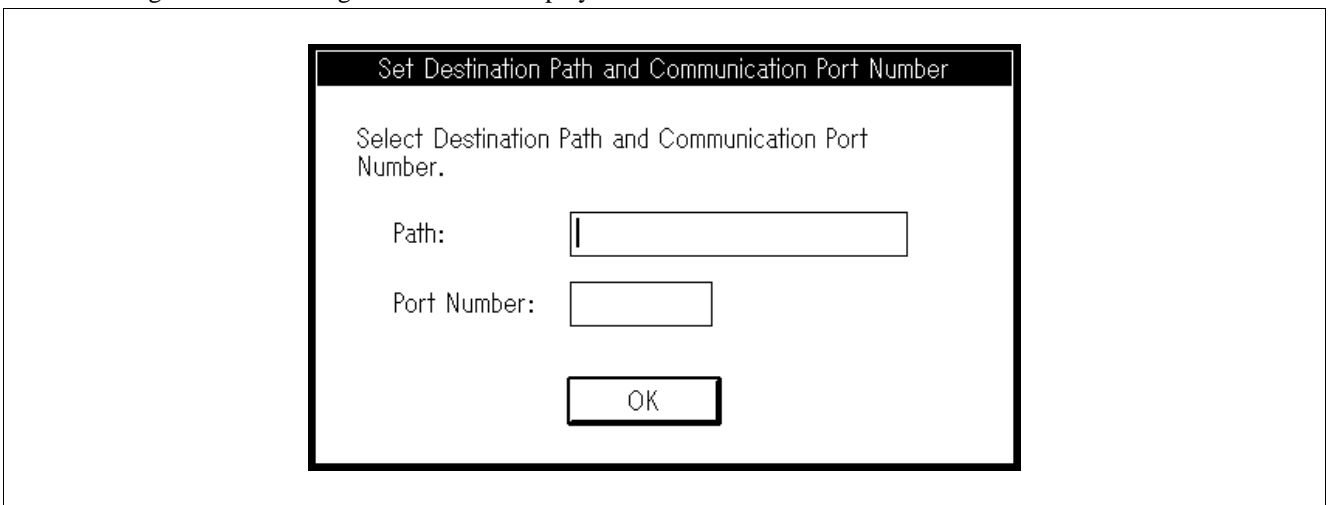

Figure 2-2 Dialog Box for Installation
4. The dialog box shown in figure 2-2 is then displayed.